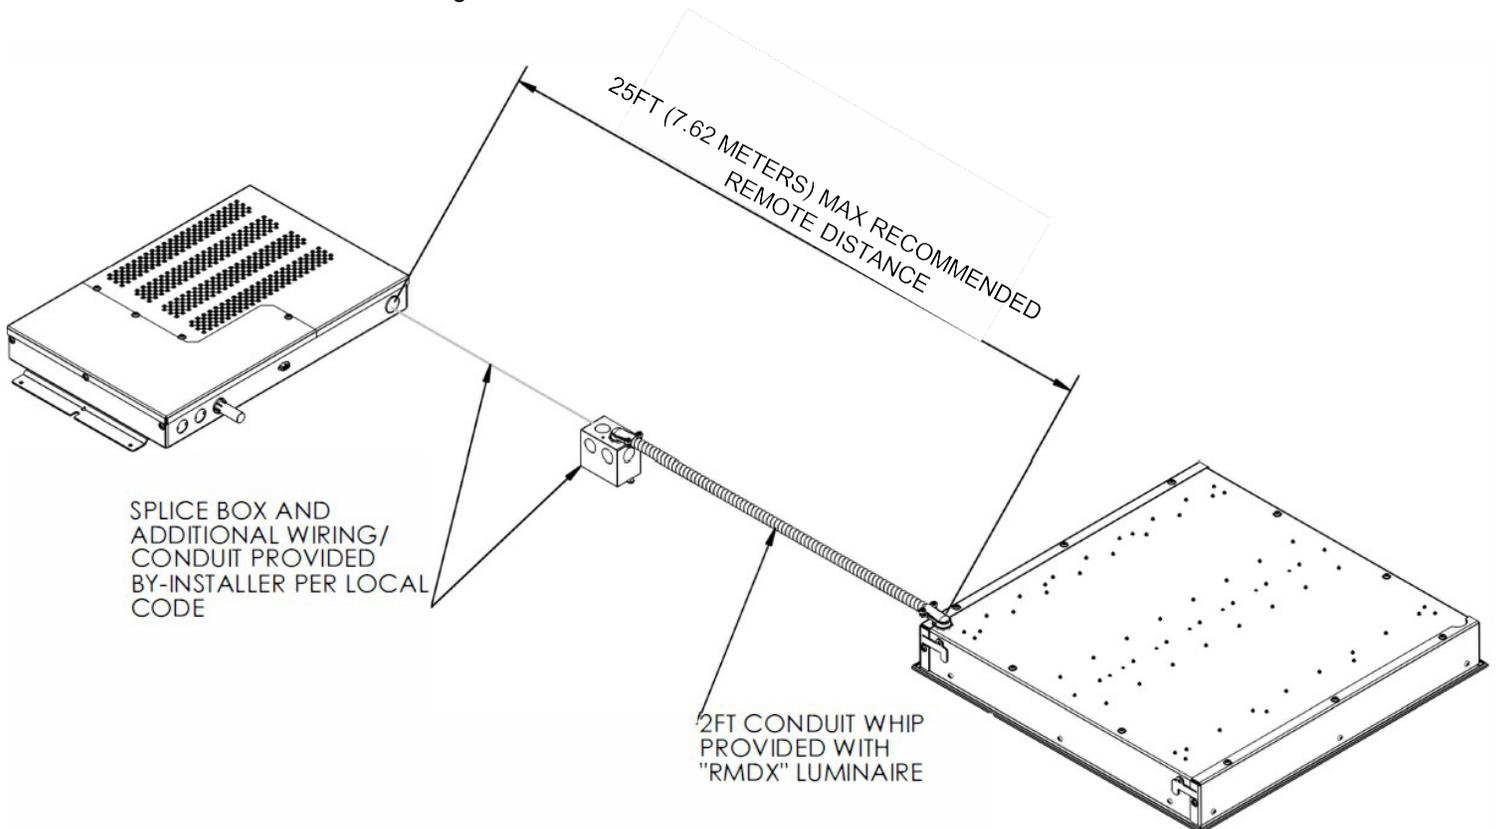

**FIGURE 2**
3. Remove non-perforated driver box cover (see Figure 2) and make electrical connections from supply and dimming circuit if applicable (ZT). Properly ground as local codes dictate. Re-install non-perforated driver box cover when wiring is complete. If SLVC optioned luminaire refer to pages 9 thru 11 for controls wiring.
5. Remove non-perforated driver box cover (see Figure 2) and make electrical connections from supply and dimming circuit if applicable (ZT). Properly ground as local codes dictate. Re-install non-perforated driver box cover when wiring is complete. If SLVC optioned luminaire refer to pages 9 thru 11 for controls wiring.